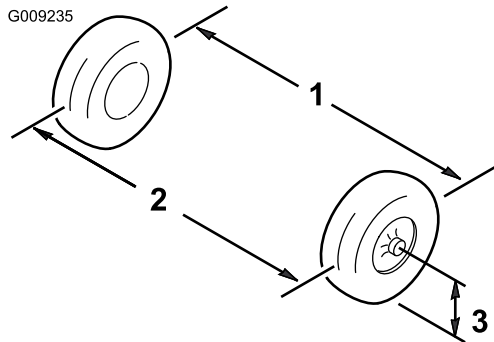

Figure 119
5. Measure the distance between both of the front tires at the axle height at both the front and rear of the front tires (Figure 119).